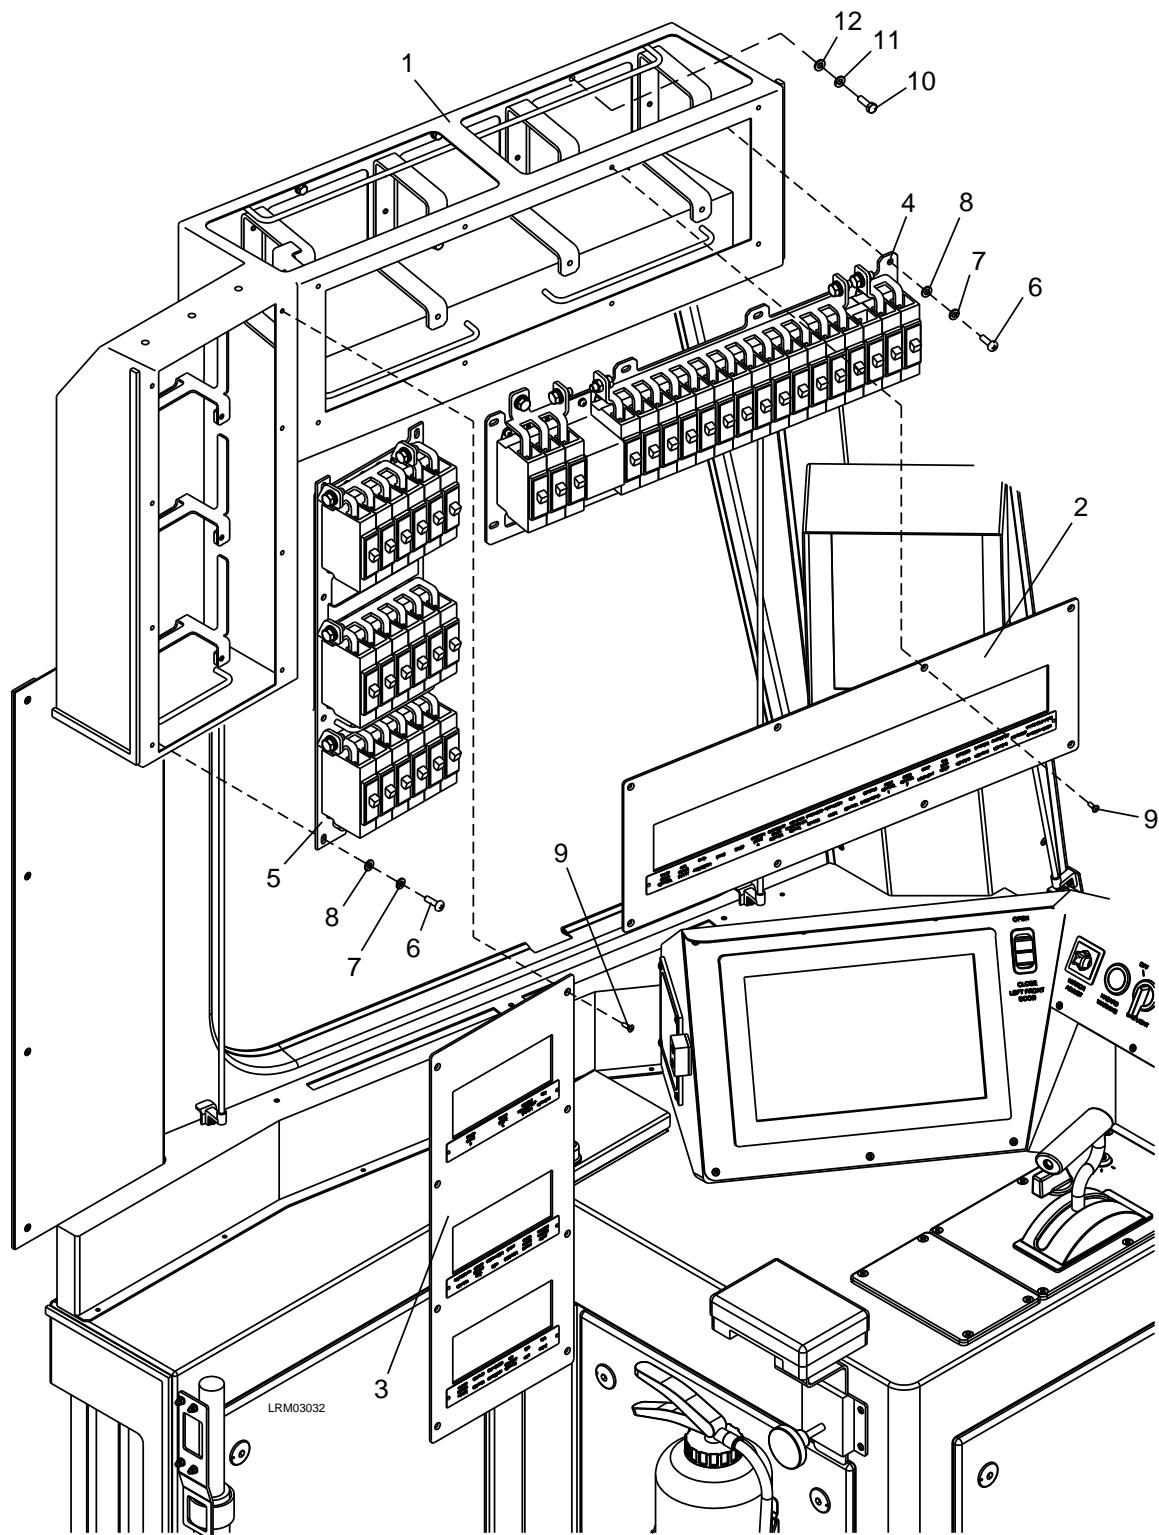

Figure 7-50: Circuit Breaker Panel A and B
1. Remove the eight M4 x 12 screws (9). See Figure 7-50.
2. Remove the cover (2).
3. Remove the eight M4 x 12 screws (9).
4. Remove the cover (3).
5. Remove the eight M6 x 20 screws (6), M6 lock washers (7), and M6 plain washers (8).
6. Remove the circuit breaker bracket (4).
7. Remove the eight M6 x 20 screws (6), M6 lock washers (7), and M6 plain washers (8).
8. Remove the circuit breaker bracket (5).
9. Remove the 16 M6 x 20 screws (10), M6 lock washers (11), and M6 plain washers (12).
10. Carefully remove the circuit breaker cabinet (1).